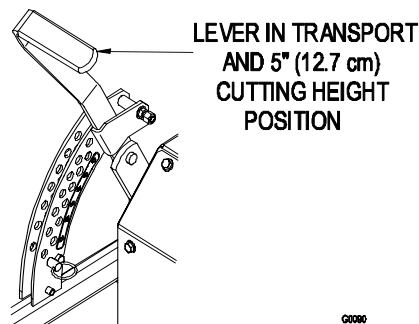
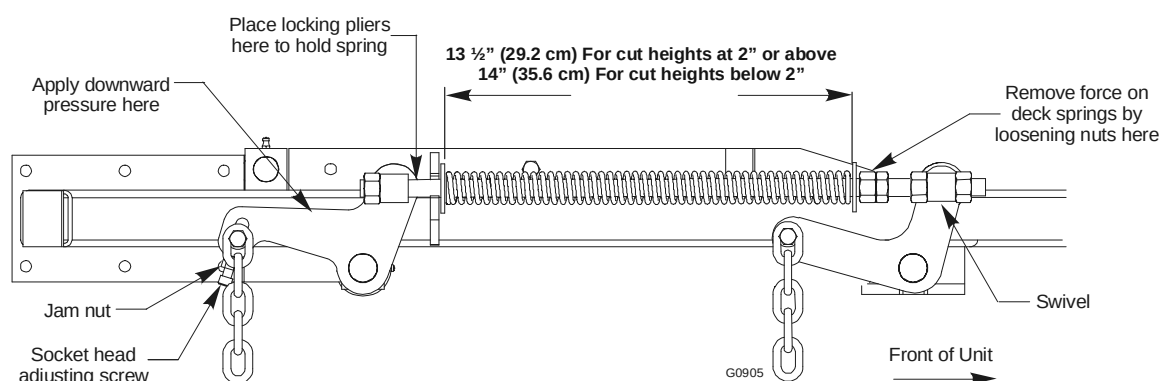

FIGURE 6
FIGURE 8
- c) Raise the deck lever to the transport position (also the 5” (12.7 cm) cutting height position). See Figure 6.
- e) Raise the deck to the 5" (12.7 cm) height position (also transport position) and take all force off of the two large deck lift springs by loosening the nuts at the front of each spring. See Figure 8.
- f) Lower the deck to the 1" (2.54 cm) height position. Force the left rear deck support arm downward about 1/4" (6.4 mm) to get the deck to rest at the 1" height position. Place locking pliers between the rear swivel and spring stop to hold the deck in this position. See Figure 8.
- g) Place a 3/4" (19 mm) thick block of wood under each of the two (2) rear anti-scalp roller brackets and place one under **one of the front center** anti-scalp roller brackets.
- h) Loosen the two (2) top chain bolts in slots in the rear deck lift arms. Loosen jam nuts and back off the socket head adjusting screws on the
- l) Raise deck lift lever to the 5" (12.7 cm) cutting height position See Figure 6. Adjust spring compression until proper distance is obtained between the two large washers (See Figure 8). Adjustment is made by turning the nut at the front of each spring (clockwise will shorten the spring, counter-clockwise will lengthen the spring). Lock in position with jam nuts.